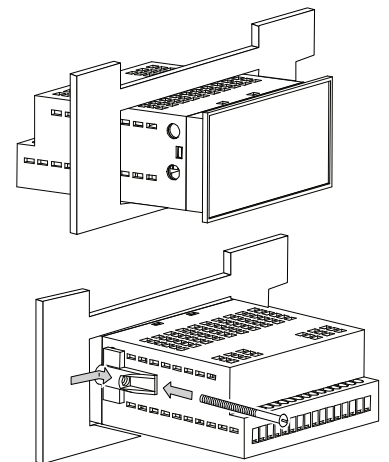

Fig. 4.1 Panel mount
- prepare the mounting cutout for H1 (Fig. A.1) or H2 (Fig. A.2 and Fig. 4.1) housing